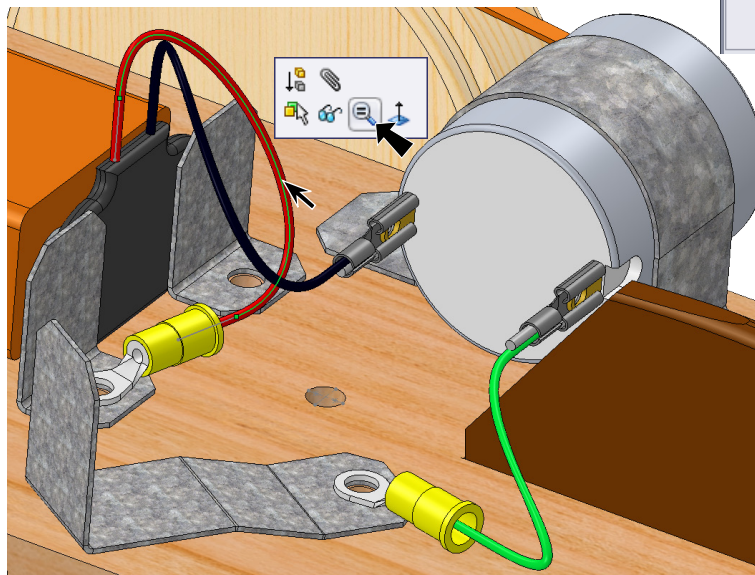

Fig. 18
Step 1. Click the **3D Sketch** and click **Hide**  on Content toolbar, **Fig. 18.**